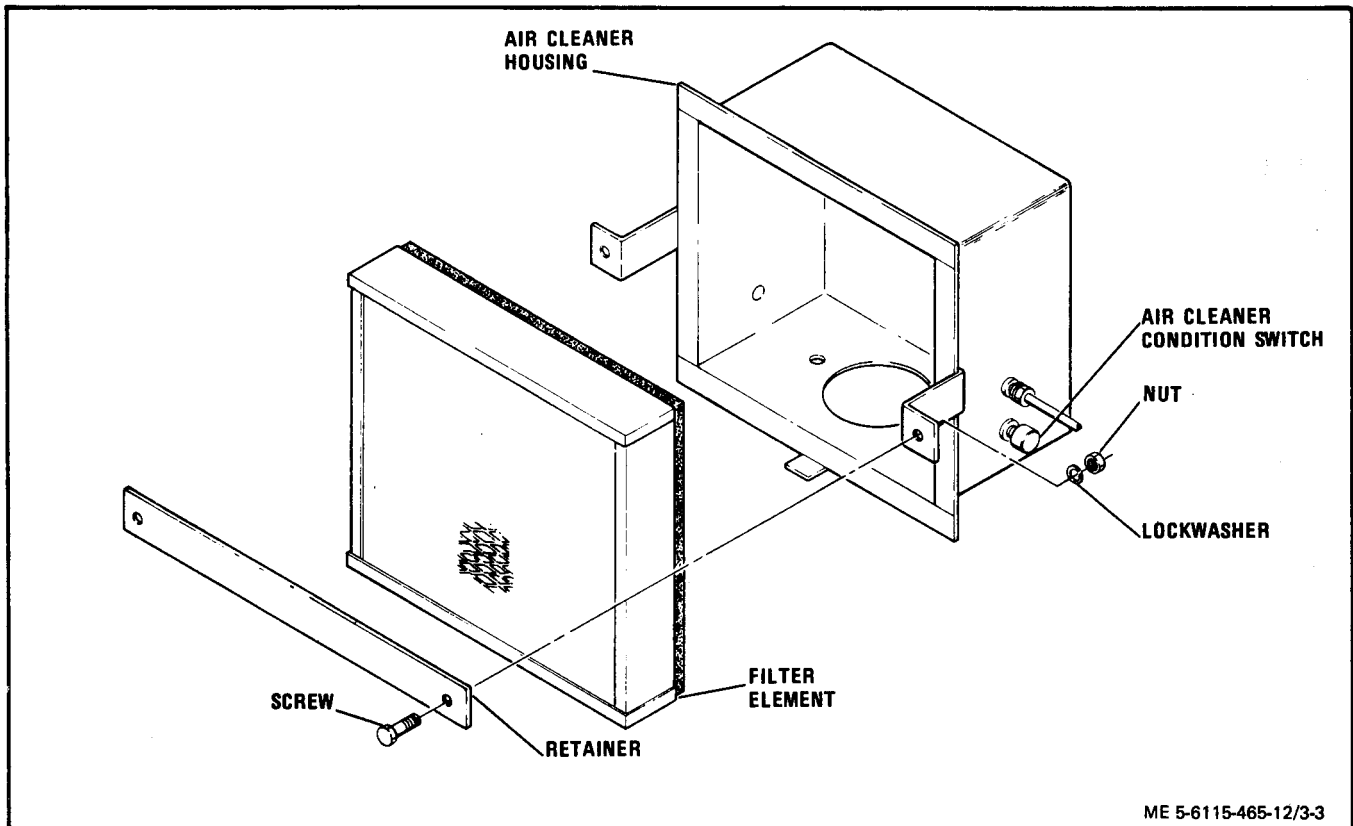

Figure 3-3. Servicing the Engine Air Cleaner
(1) Remove nuts, lockwashers, screws and retainer (figure 3-3).
(2) Carefully remove dirty filter element from housing.